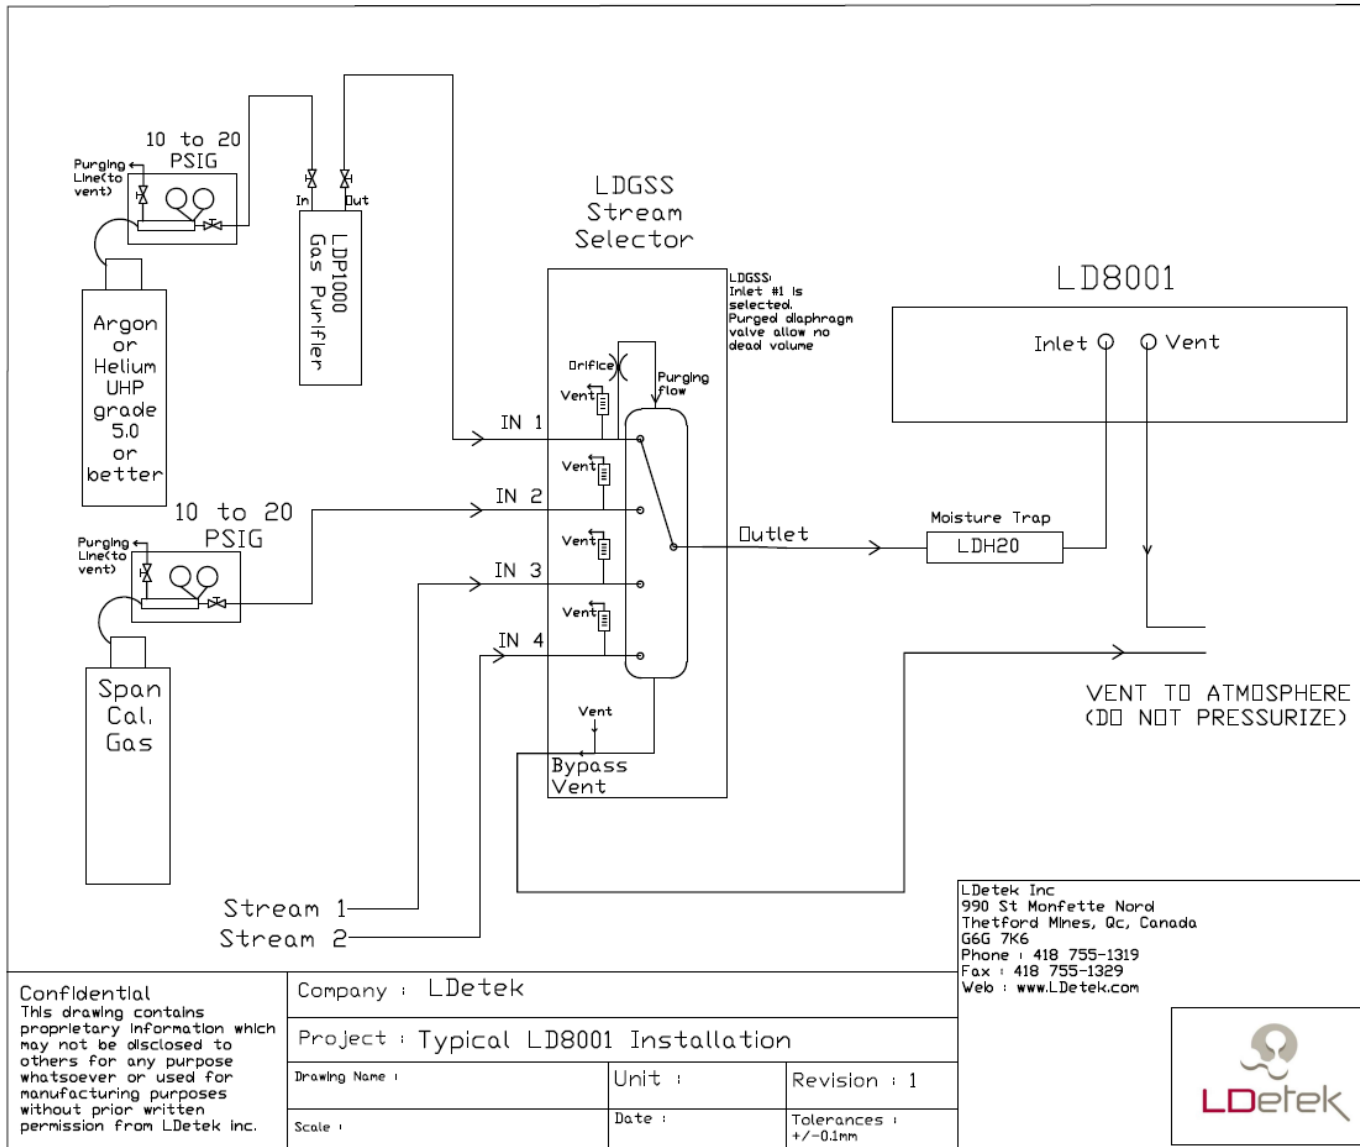
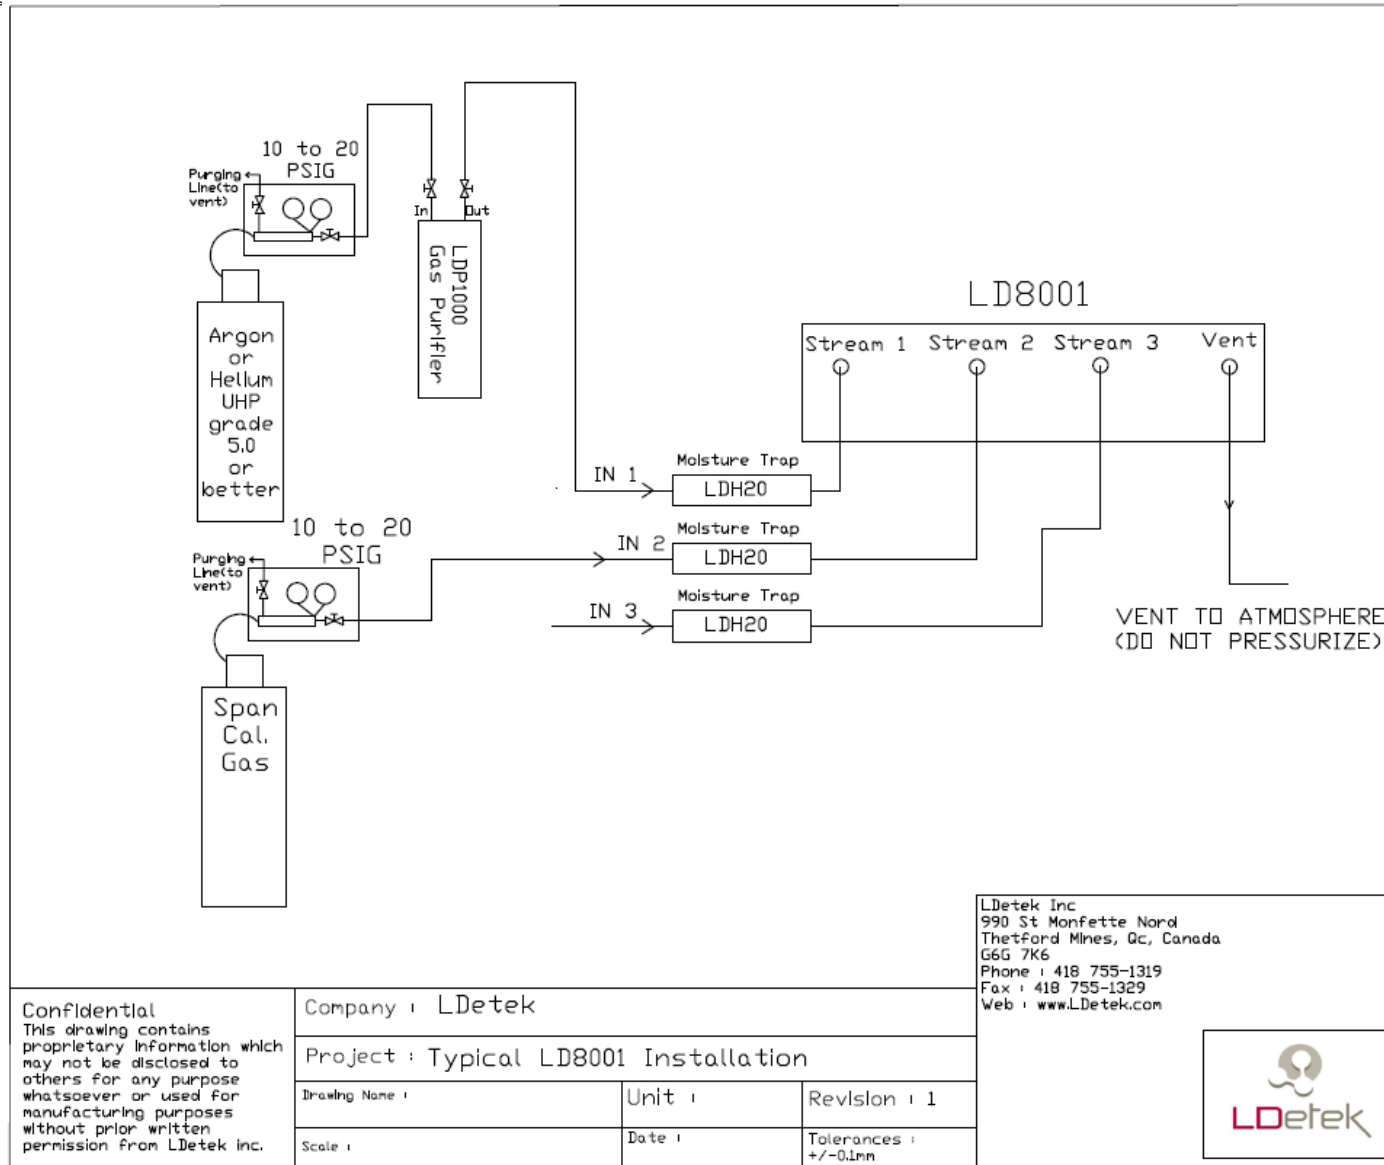
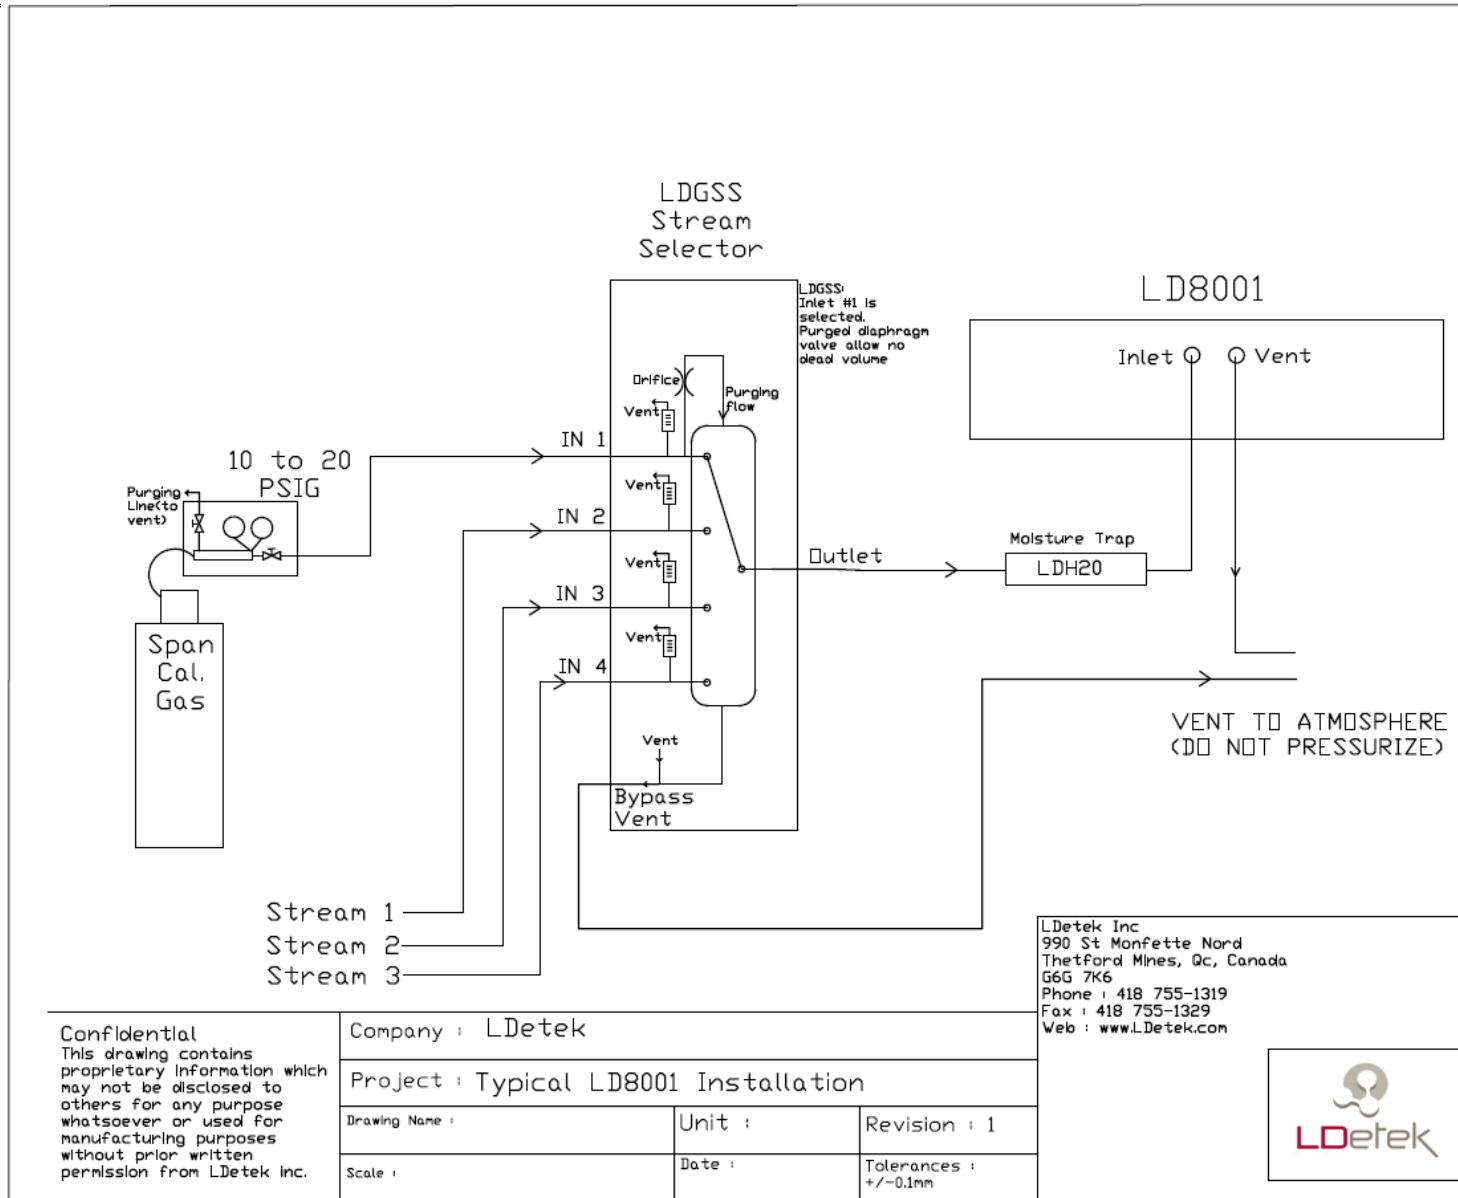

Figure 1: Typical Installation with LDGSS
Figure 2: Typical Installation with integrated stream selector
Figure 3: Typical Installation with zero gas free
7. **Make sure that the plug on the sample vent was removed** and connect the sample line to the sample inlet of the LD8001. Note that a moisture trap (LDT-H2O-50) must always be installed on the sample inlet as shown on Figure 1. This trap is consumable and must be replaced every year.
span inlets. The moisture traps must be installed as per the drawing on Figure 2.
The installation will vary depending on the LD8001 model. For analyzer without integrated stream selectors, please refer to Figure 1. For analyzer with an integrated stream selector, please refer to Figure 2 and for analyzers with the zero-gas free option, please refer to Figure 3.